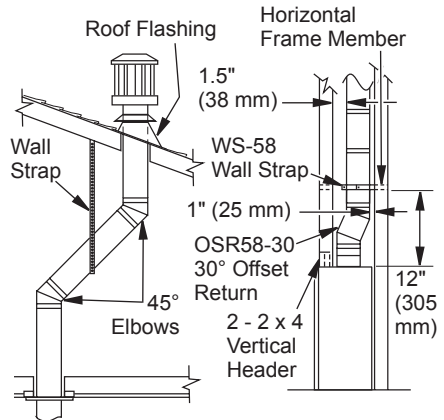

Figure 26 - 45° and 30° Offset with Wall Strap
- Determine the route your vertical venting will take. If ceiling joists, roof rafters or other framing will obstruct the venting system, consider an offset (see Figure 26) to avoid cutting load bearing members. Note: Pay special attention to these installation instructions for required clearances (air space) to combustibles when passing through ceilings, walls, roofs, enclosures, attic rafters, etc. Do not pack air spaces with insulation. Also note maximum vertical rise of the venting system and any maximum horizontal offset limitations.
Note: If an offset is needed to avoid obstructions, you must support vent pipe every 3 feet. Use wall straps for this purpose (see Figure 26, page 17). Whenever possible, use 45° elbows instead of 90° elbows. The 45° elbow offers less restriction to the flow of flue gases and intake air.
5. Place flashing over pipe section(s) extending through roof. Secure base of flashing to roof and framing with roofing nails. Be sure roofing material overlaps top edge of flashing as shown in Figure 26, page 17. There must be a 1" clearance from vent pipe to combustible materials.